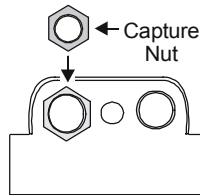

Figure 10: Capture Nut
2. Slide the capture nut into the slot located inside of the conduit opening. (See Figure 10.)